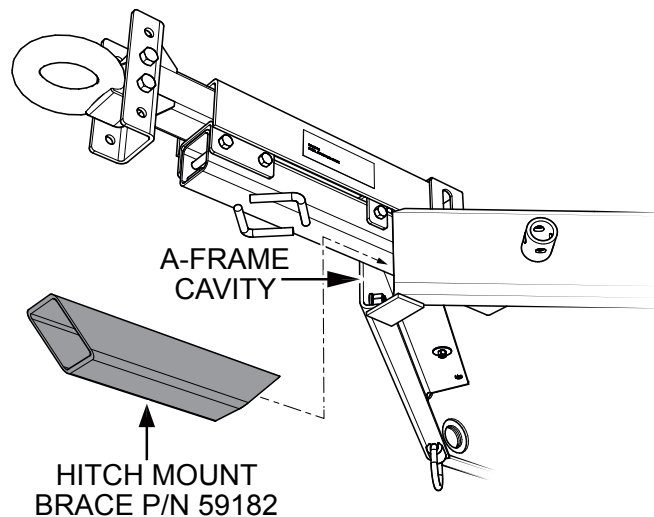

Figure 4. Inserting Hitch Mount Brace
2. Locate the A-frame cavity area (Figure 4) under the tongue side on the trailer frame.
3. Next, slide hitch mount brace (P/N 59182) into the cavity area on the trailer frame as shown in Figure 4.